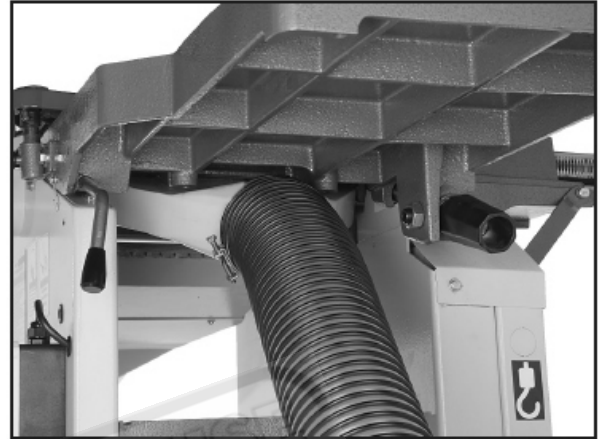
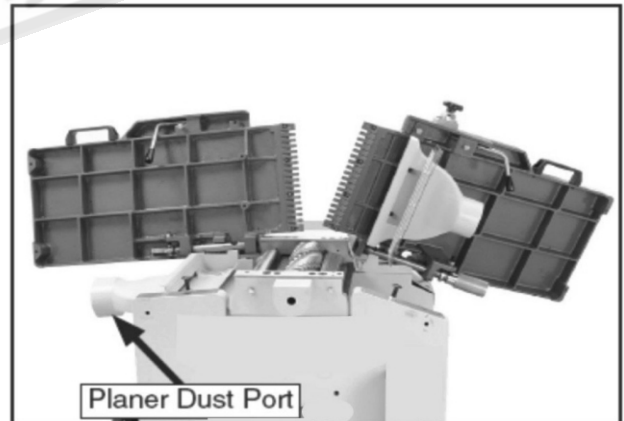

Figure 12. Dust hose attached to jointer dust port.
Figure 13. Planer dust port in "down"position.
1. Fit the 4 dust hose over the jointer dust port,(see **Figure 12**, or over the planer dust port(see **Figure 13**),depending upon which operation mode is setup,and secure in place with a hose clamp.